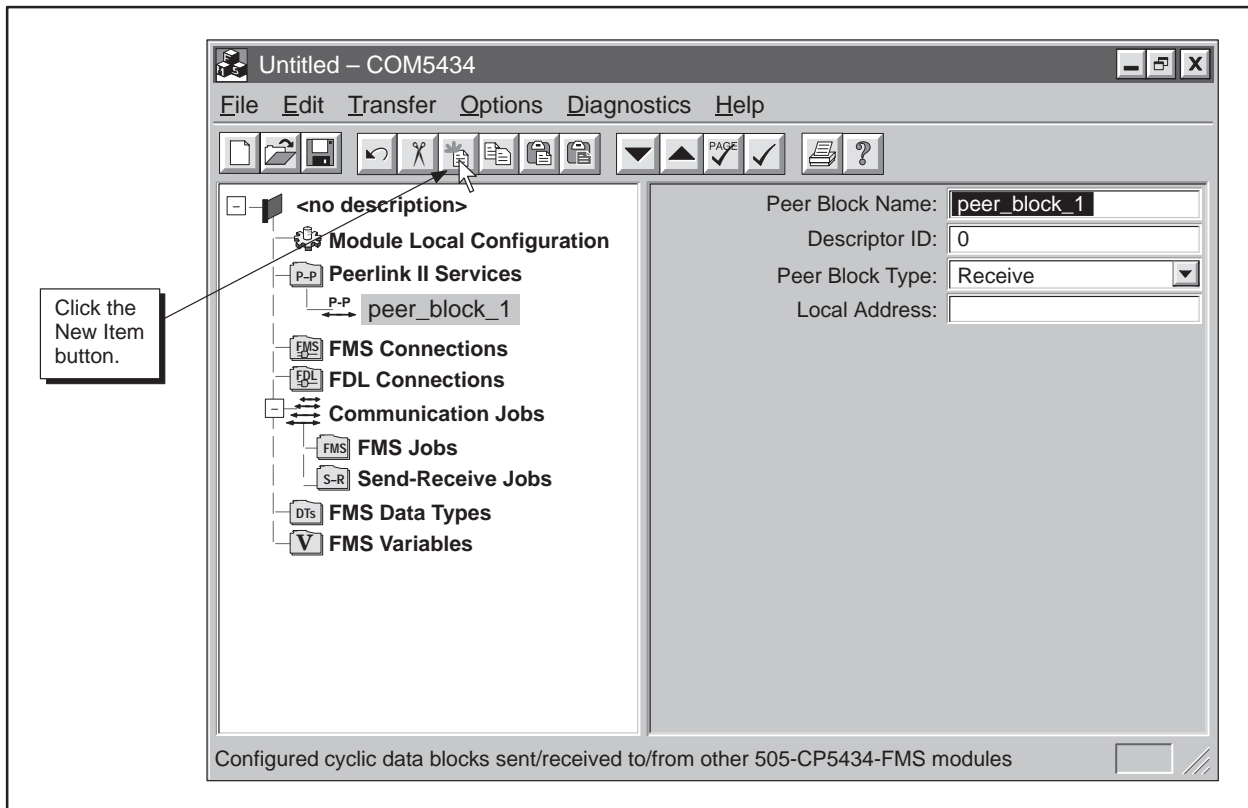

Figure 5-10 Defining a Peer Block
2. Click on the New Item button on the toolbar. A new peer block appears in the configuration tree and the input fields change (see Figure 5-10).